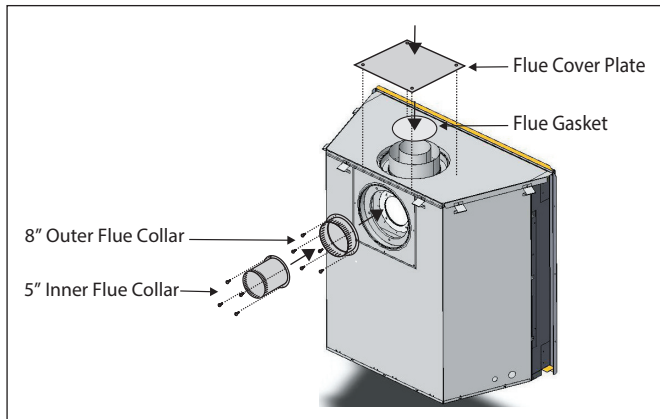

Figure 9a. Flue cover and collar installation, Rear Vented fireplace
3. Install the (removed) Rear flue cover and gasket material, to the Top vent outlet. Fasten the cover with included hardware, as illustrated Figure 9a.
4. Install the (5" and 8") collars to the rear vent outlet using the included hardware, as illustrated Figure 9a.